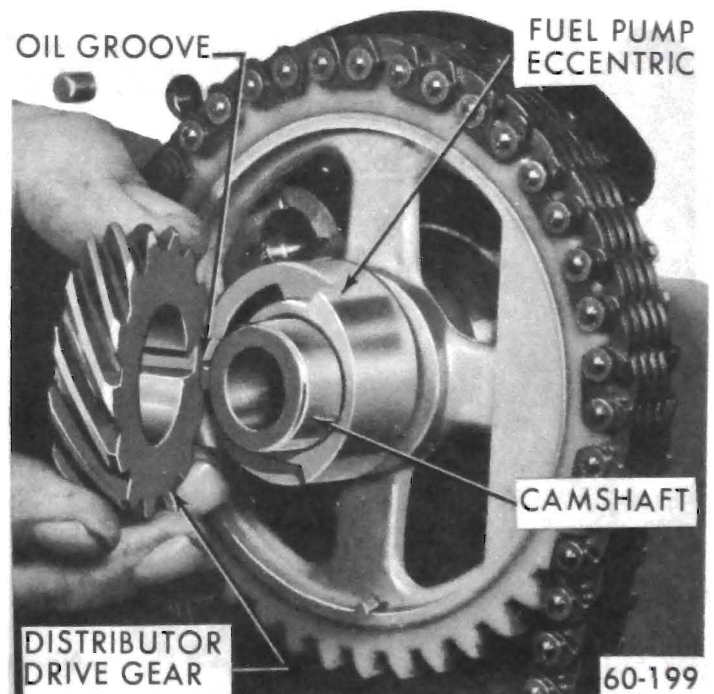

Figure 60-54 - Fuel Pump and Distributor Drive Gear Installation - 350 Cu. In.
camshaft forward end. Slide gear and eccentric off camshaft. See Figure 60-54.
5. Slide fuel pump eccentric on camshaft and Woodruff key with oil groove forward. See Figure 60-54.
6. Install distributor drive gear. See Figure 60-54.